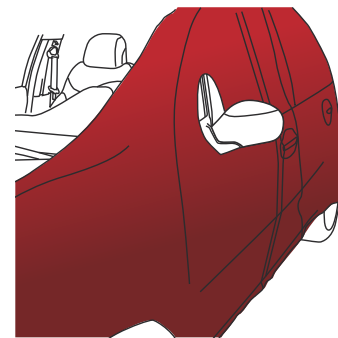

Figure 31
- › The film is stretched over the entire surface area to be wrapped. Now you can apply the film (FIG. 31) according to the type of surface.